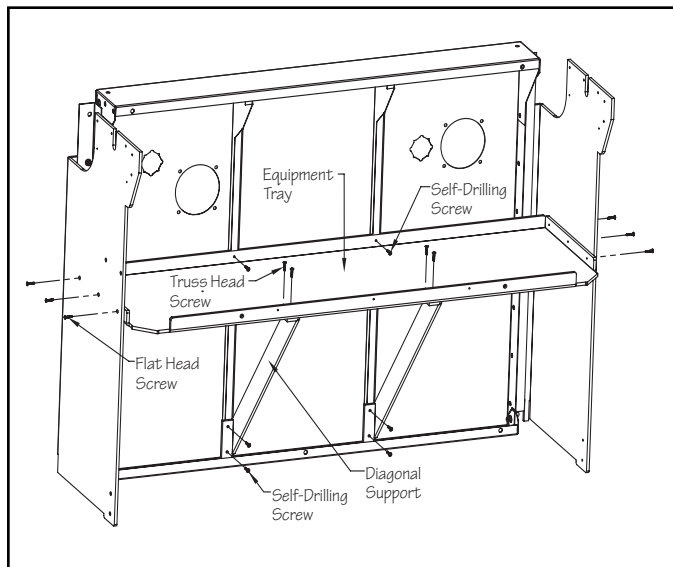

Fig. 9
Position the equipment tray between the left and right vertical supports and align the pre-drilled holes on each side of the equipment tray with the pre-drilled holes in the vertical supports. Attach the equipment tray to the left and right vertical supports using the (6) 1" (25mm) flat head screws located in the equipment tray hardware bag. Fig. 9.
Align the pre-drilled holes in each diagonal support with the pre-drilled holes on the flat surface of the tray. Attach the diagonal supports to the underside of the equipment tray using the (4) 1" (25mm) truss head screws located in the diagonal support hardware bag. Attach the other ends of the diagonal supports to the vertical panel stiffeners using the (4) self-drilling screws located in the diagonal support hardware bag. Fig. 9.
Verify the equipment tray is level and attach the equipment tray to the panel stiffeners with the (2) self-drilling screws located in the equipment tray hardware bag. Fig. 9.